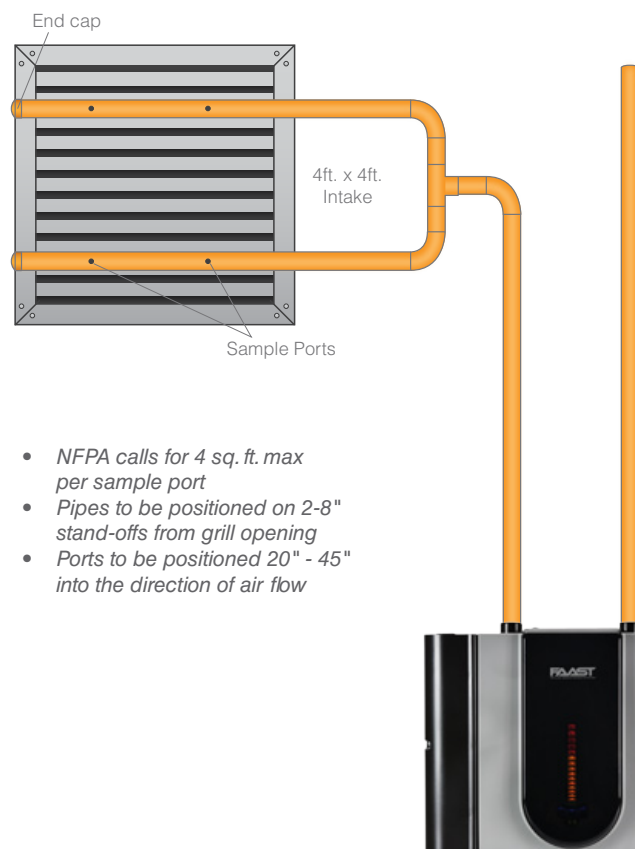

Figure 22: Return air sampling.
4. Ports on the inlet pipe should face 20-45 degrees into the air flow with the ports concentrated at the center of the duct as shown in figure 22.